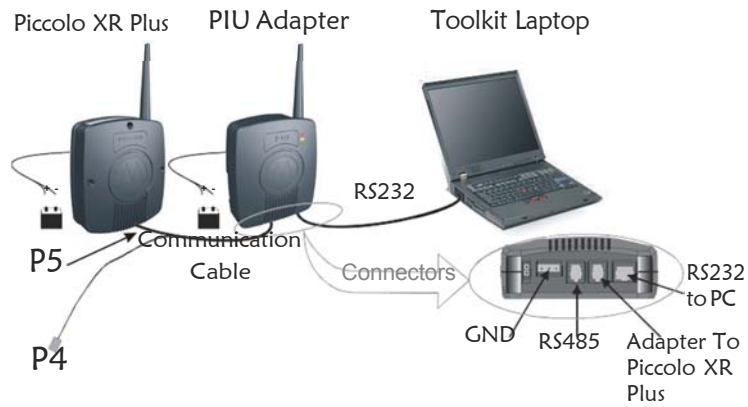

Figure 20
1. Connect the PIU adapter RS232 port to the computer with the FTN6597B cable (see Figure 20).